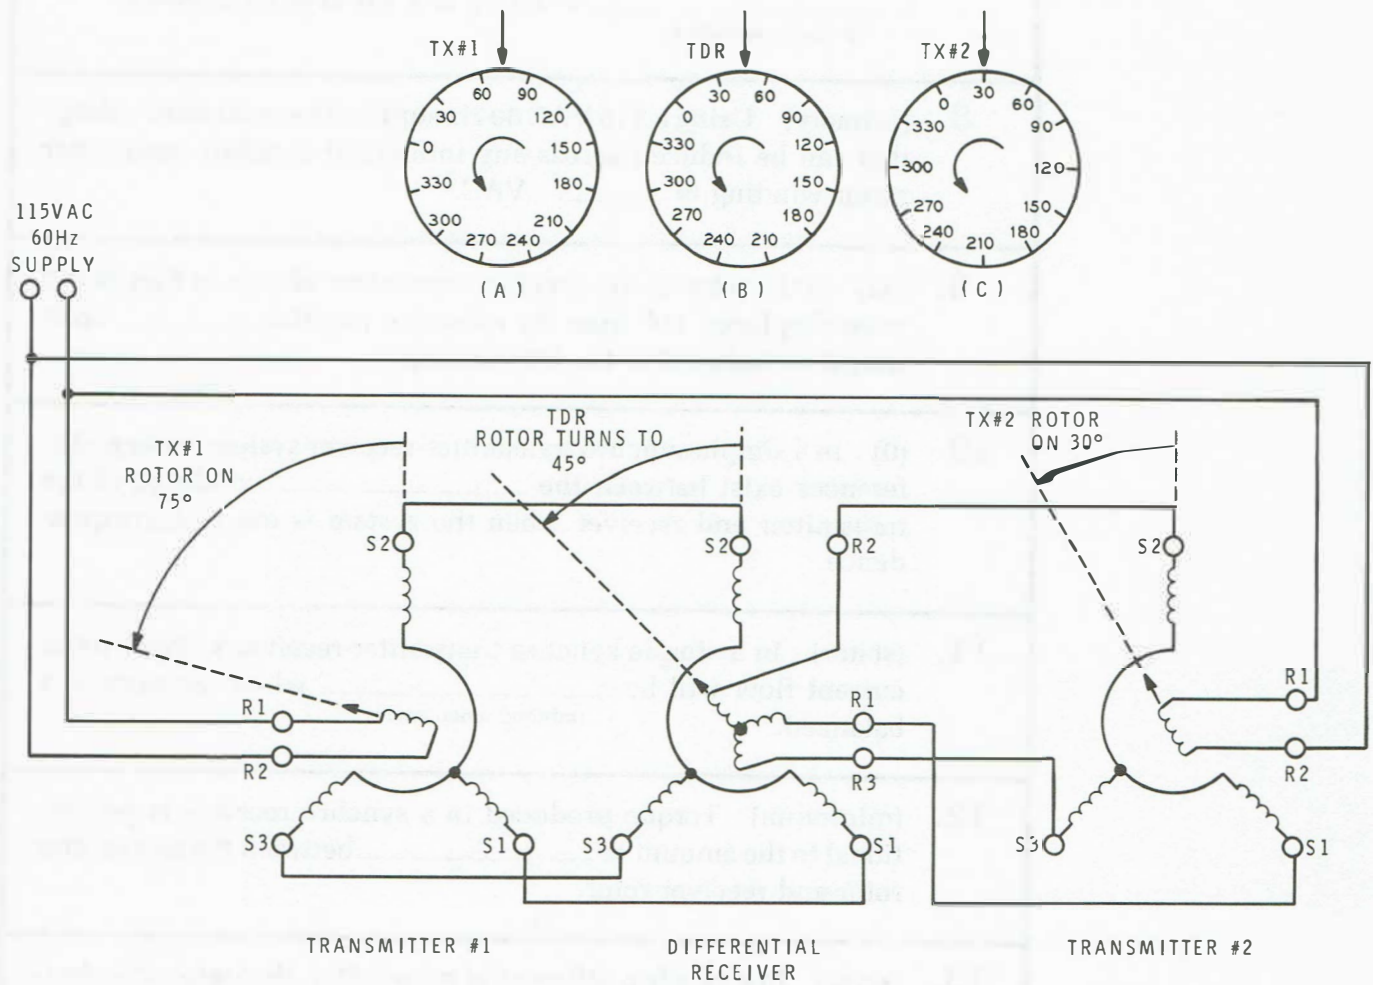

Figure 8-15
The TX-TDR-TX synchro system shown in Figure 8-15 is connected to produce a difference output from the TDR. The rotor of synchro transmitter number 1 is mechanically positioned to a dial setting of  $75^\circ$  (A), and the rotor of synchro transmitter number 2 is positioned to a dial setting of  $30^\circ$  (C). The voltages induced in the stator windings of transmitter number 1 are applied to the stator windings of the differential receiver; while the voltages induced in the stator windings of transmitter number 2 are applied to the rotor windings of the differential receiver. The voltages applied to the differential receiver produce a resultant field which causes the rotor to rotate to the  $45^\circ$  position, shown on dial (B).
In a simple transmitter-receiver synchro system, a balanced condition is achieved when the voltages applied by the transmitter to the receiver stator windings are canceled by equal and opposing voltages induced across the receiver stator windings by the receiver rotor. The transmitter — differential receiver — transmitter synchro system, shown in Figure 8-15, attains a balanced condition when the differential receiver assumes an angular position equal to the difference between the angular positions of the two transmitters. If either, or both, of the transmitter shaft positions change, the system becomes unbalanced and stator current flows. When stator current flows, it creates a torque that causes the differential receiver to rotate until once again a balanced condition is reached.